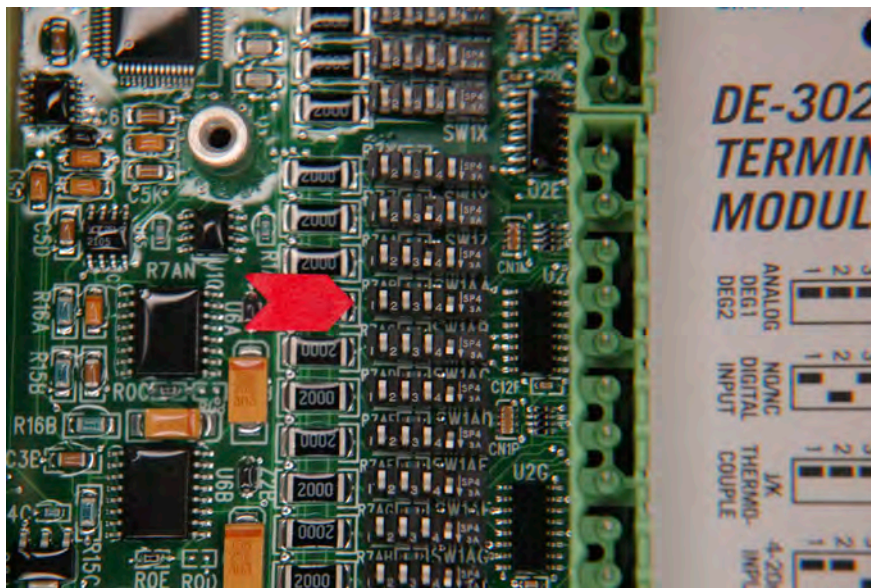

Figure 5
9. Channel 28 is now an analog input (figure 5).